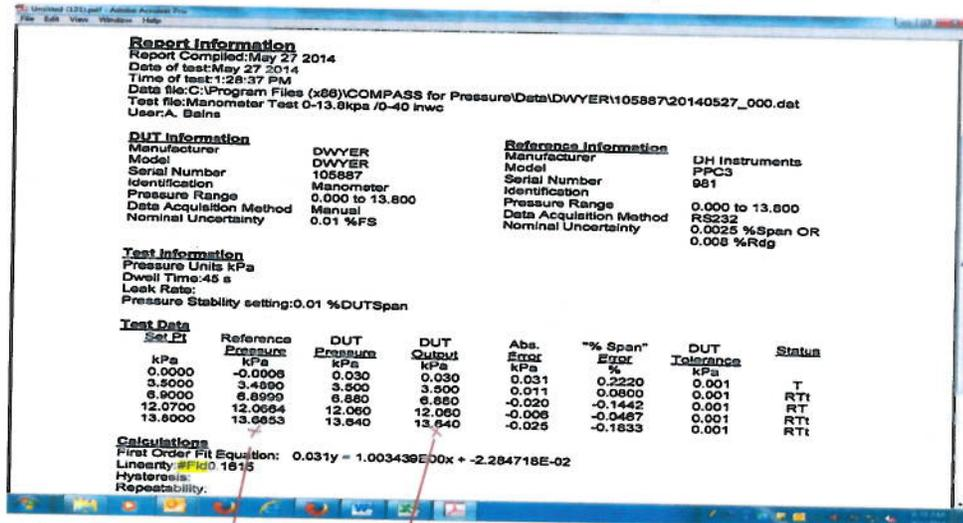
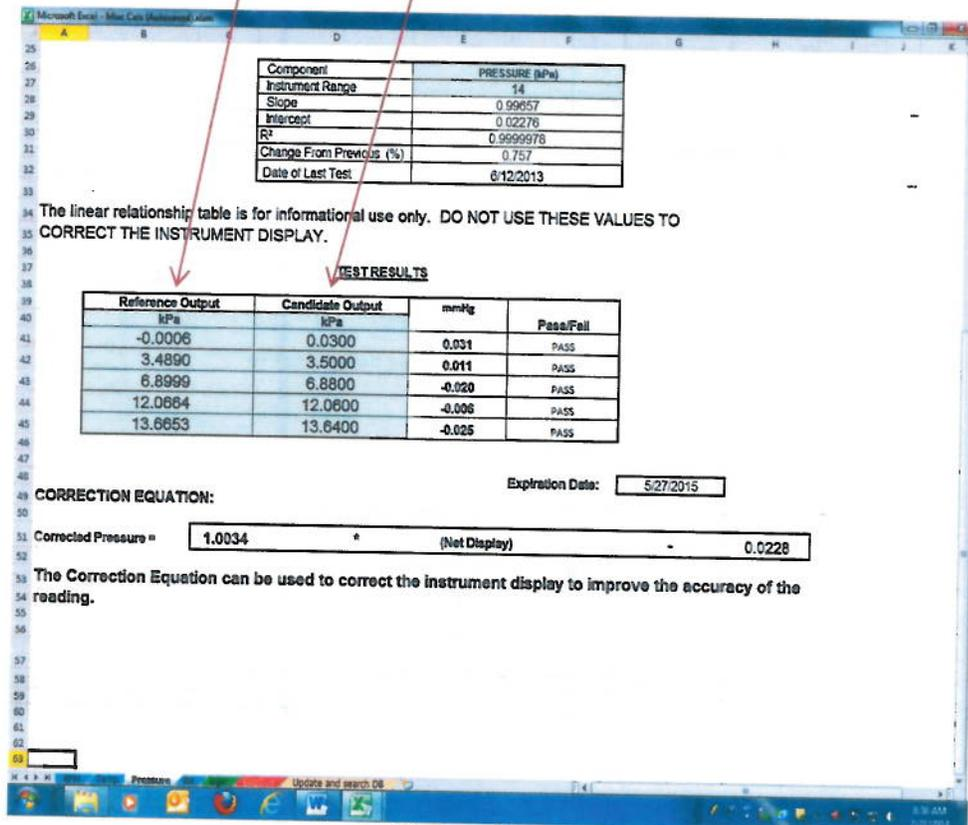

Figure 30
Figure 31
Transfer the Compass test results (Figure 30) to the "Manometer" worksheet (Figure 31) opened in step 11.8.
12.1 If the difference between the reference standard and the candidate device is < 1 mmHg or 0.133 kPa at each set point, a verification/calibration report can be issued for the candidate pressure device. If the R^2 value is ≥ 0.999 , the correction equation can be applied to the candidate's display to correct the pressure reading. See Figure 31. If the R^2 value is < 0.999 , the candidate failed the test. A retest is performed to confirm the failure. If the failure is validated, inform the customer of the failure and proceed with a Standard Failure Notification report.